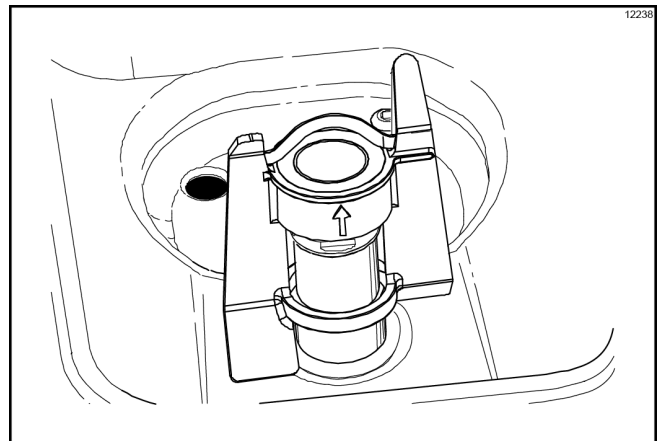

Figure-165
11. Place the agitator on the agitator driveshaft housing. (See Figure-165.)